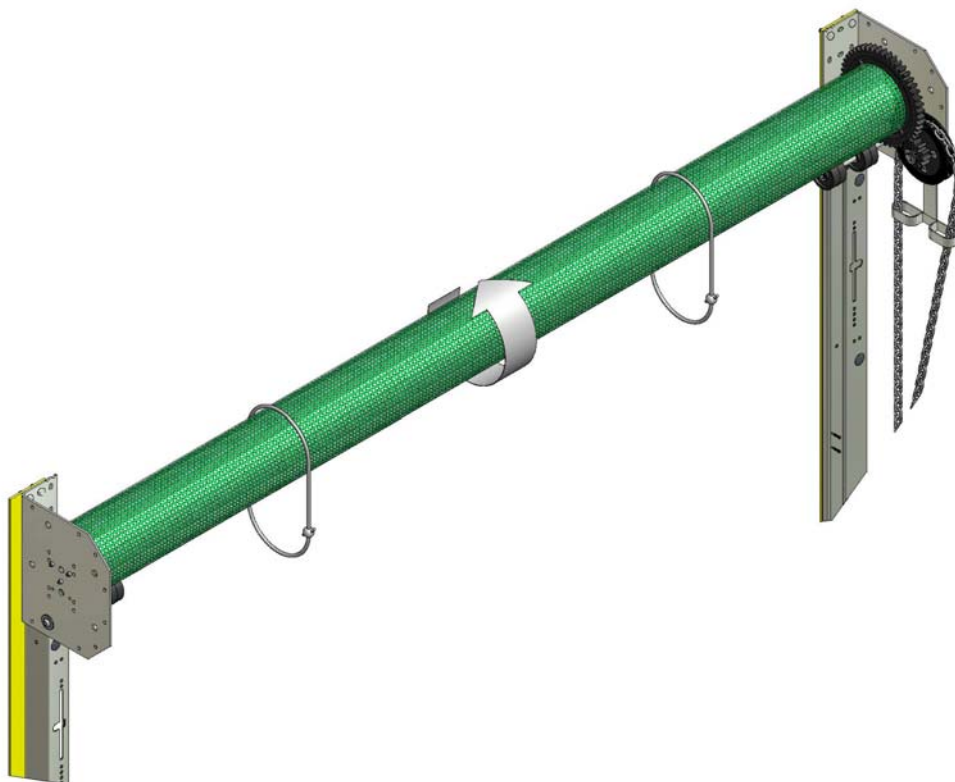

Figure 14, Tensioning of Spring
13. Pre-tension the spring mechanism by rotating the roller assembly in the direction shown in Figure 14, this is done by pulling down on the outer chain. The number of pre-tension turns is given in the table below. When the required number of turns has been reached, lock the operating chain into the chain keep (O1).